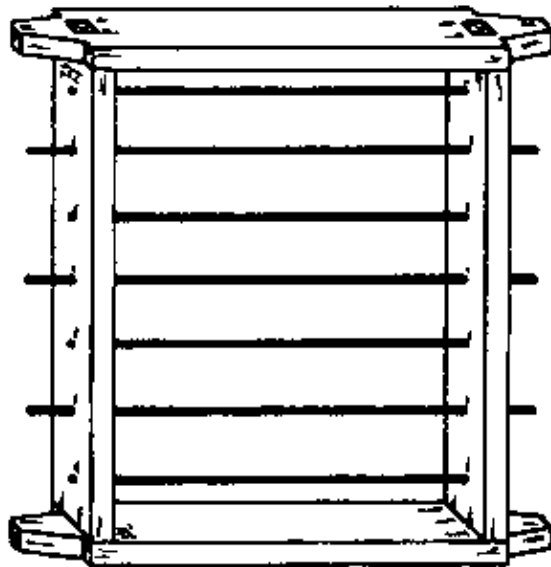

Fig. 3
– Another way to make a window safer is to fix iron bars horizontally into the frame. This must be done during the assembly of the frame. If some of the bars stick out at the sides of the frame, they can also be used as an additional anchor for the frame in the wall (Fig. 3). If the span between the posts of the window is large, the horizontal bars may need to be reinforced by having vertical bars welded onto them, so that they cannot be bent up or down to allow the burglar to enter.